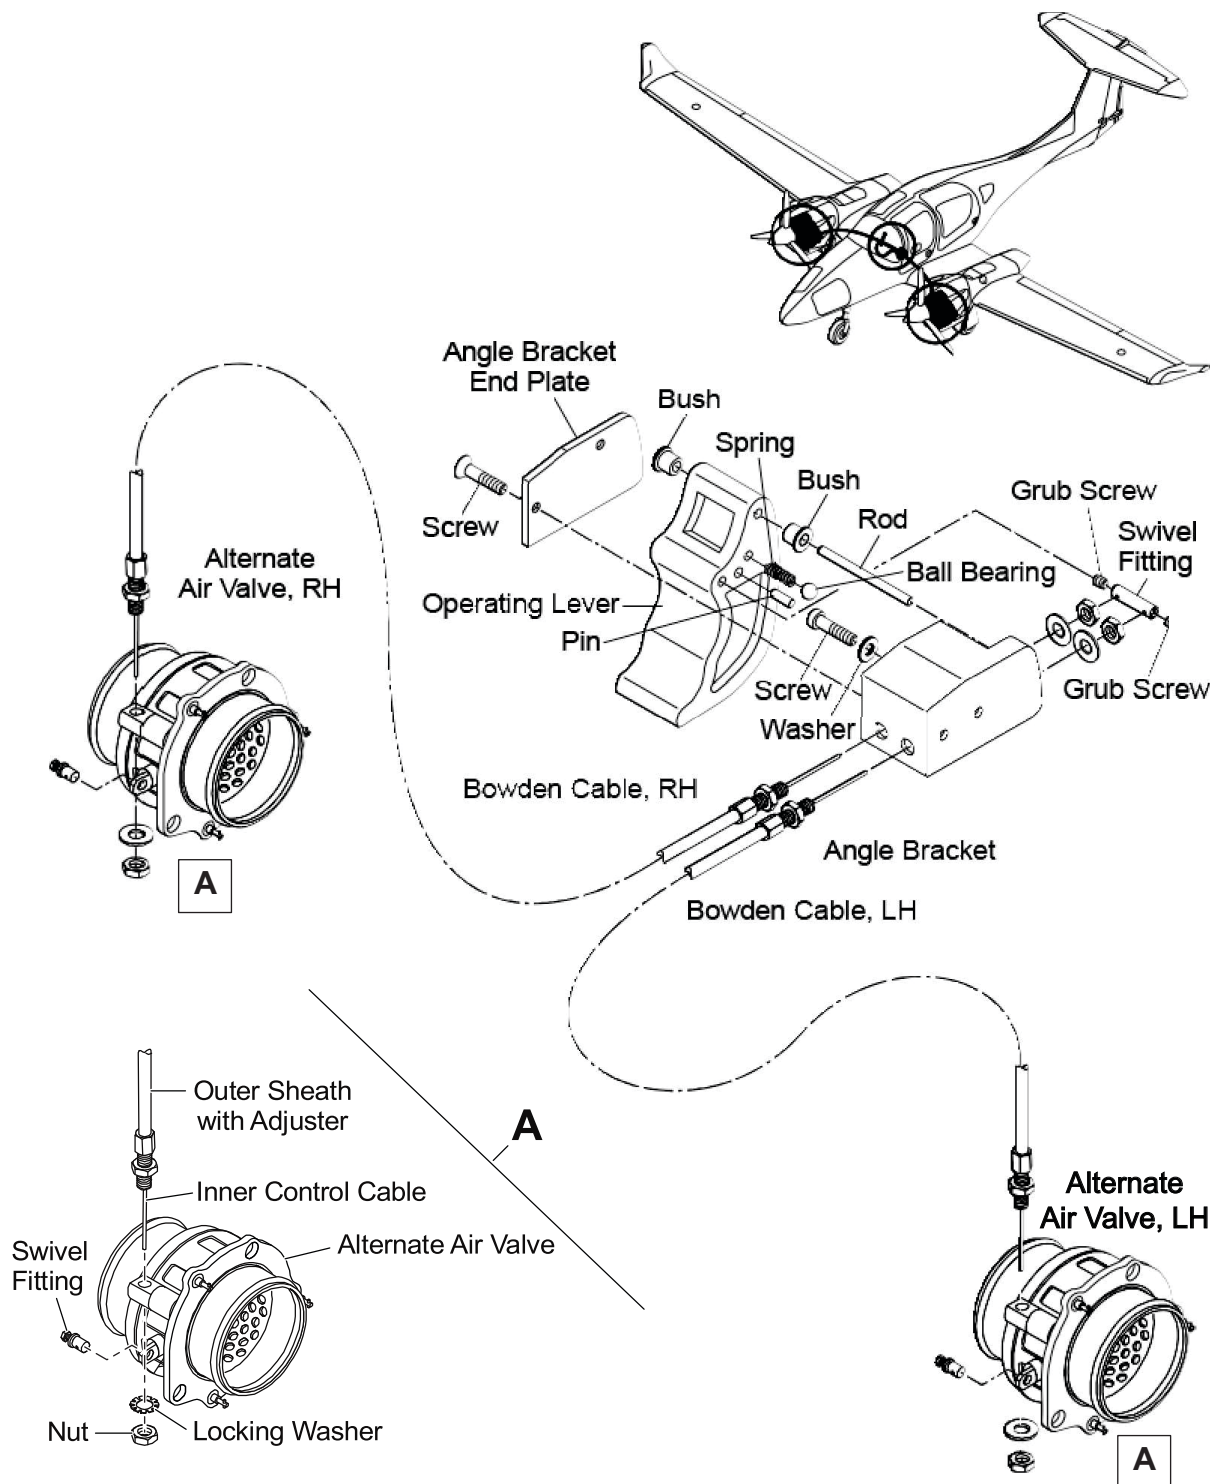

Figure 202 : Alternate Air Valve - Operating Cables (if MÄM 62-249 is installed)
Refer to Figure 202.
(1)	Make sure that the outer sheath of the alternate air-valve control-cable is in good condition and is not kinked.	If the outer sheath is not in satisfactory condition it will have to be replaced.
(2)	Make sure that the new forward inner control-cable for the alternate air valve is clean and dry.
(3)	Install the new forward inner control-cable for the alternate air valve: <ul style="list-style-type: none"> - In the cockpit, attach the end of the length of cord that is in the control cable outer-sheath to the new inner control cable. - Round the cable end. - At the engine, from the alternate air valve, pull the new cable into the outer sheath with the length of cord. - When the new inner cable is fully through the outer sheath: <ul style="list-style-type: none"> - Disconnect the length of cord from the inner cable. 	Two persons are required, one in the cockpit and one at the engine. Grease the cable end lightly with Grease 5 The person in the cockpit will make sure that the cable will enter the outer sheath correctly. Apply a light coat of grease to the cable as it enters the outer sheath. Discard the cord.
(4)	In the cockpit, connect the control cables to the alternate air-control operating-lever: <ul style="list-style-type: none"> - Install the swivel fitting onto the inner cables. Tighten the grub screws. - With the use of Figure 202, attach together the end plate, operating lever, angle bracket and swivel fitting.
(5)	Connect the inner-cable to the alternate air valve: <ul style="list-style-type: none"> - Install the swivel fitting into the relay lever. - Pass the inner cable through the swivel fitting and tighten the swivel fitting screw.
(6)	Adjust the alternate air-valve control-cable that you installed.	Refer to Paragraph 7.
(7)	Install the engine top cowlings.	Refer to Section 71-10.
(8)	Connect the airplane main battery.	Refer to Section 24-31.